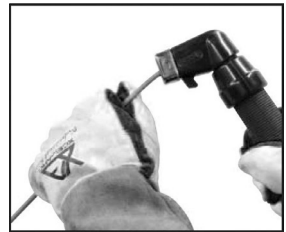

Fig. 4
5. Place the electrode into the electrode holder and clamp tight (Fig. 4).